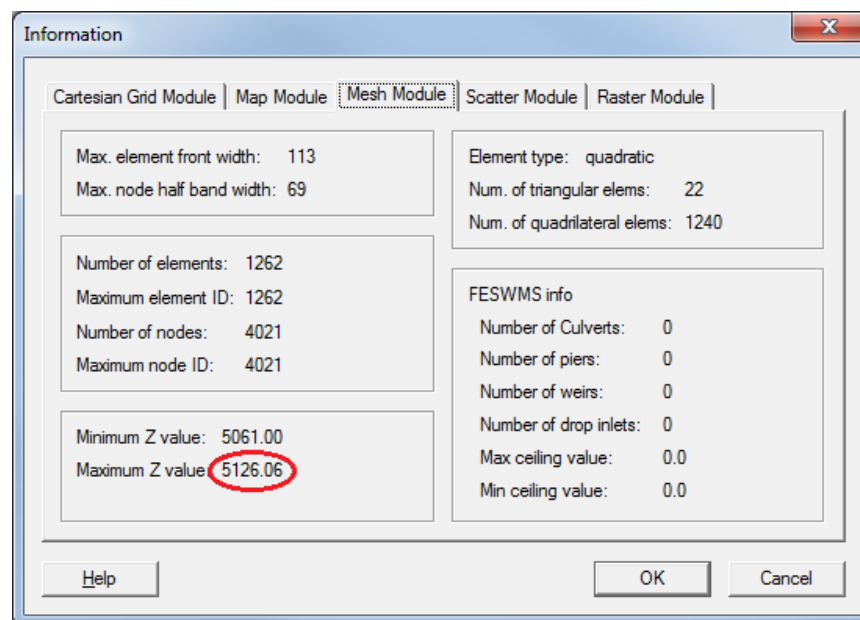

Figure 8 Mesh Information dialog with Maximum Z value highlighted
2. On the **Mesh Module** tab, look at the **Maximum Z value** (highlighted in Figure 8).